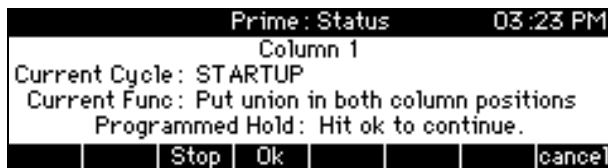

Figure 3-40 Startup Routine—Second Screen
3. Press **Ok** to continue. The screen shown in Figure 3-40 is displayed.